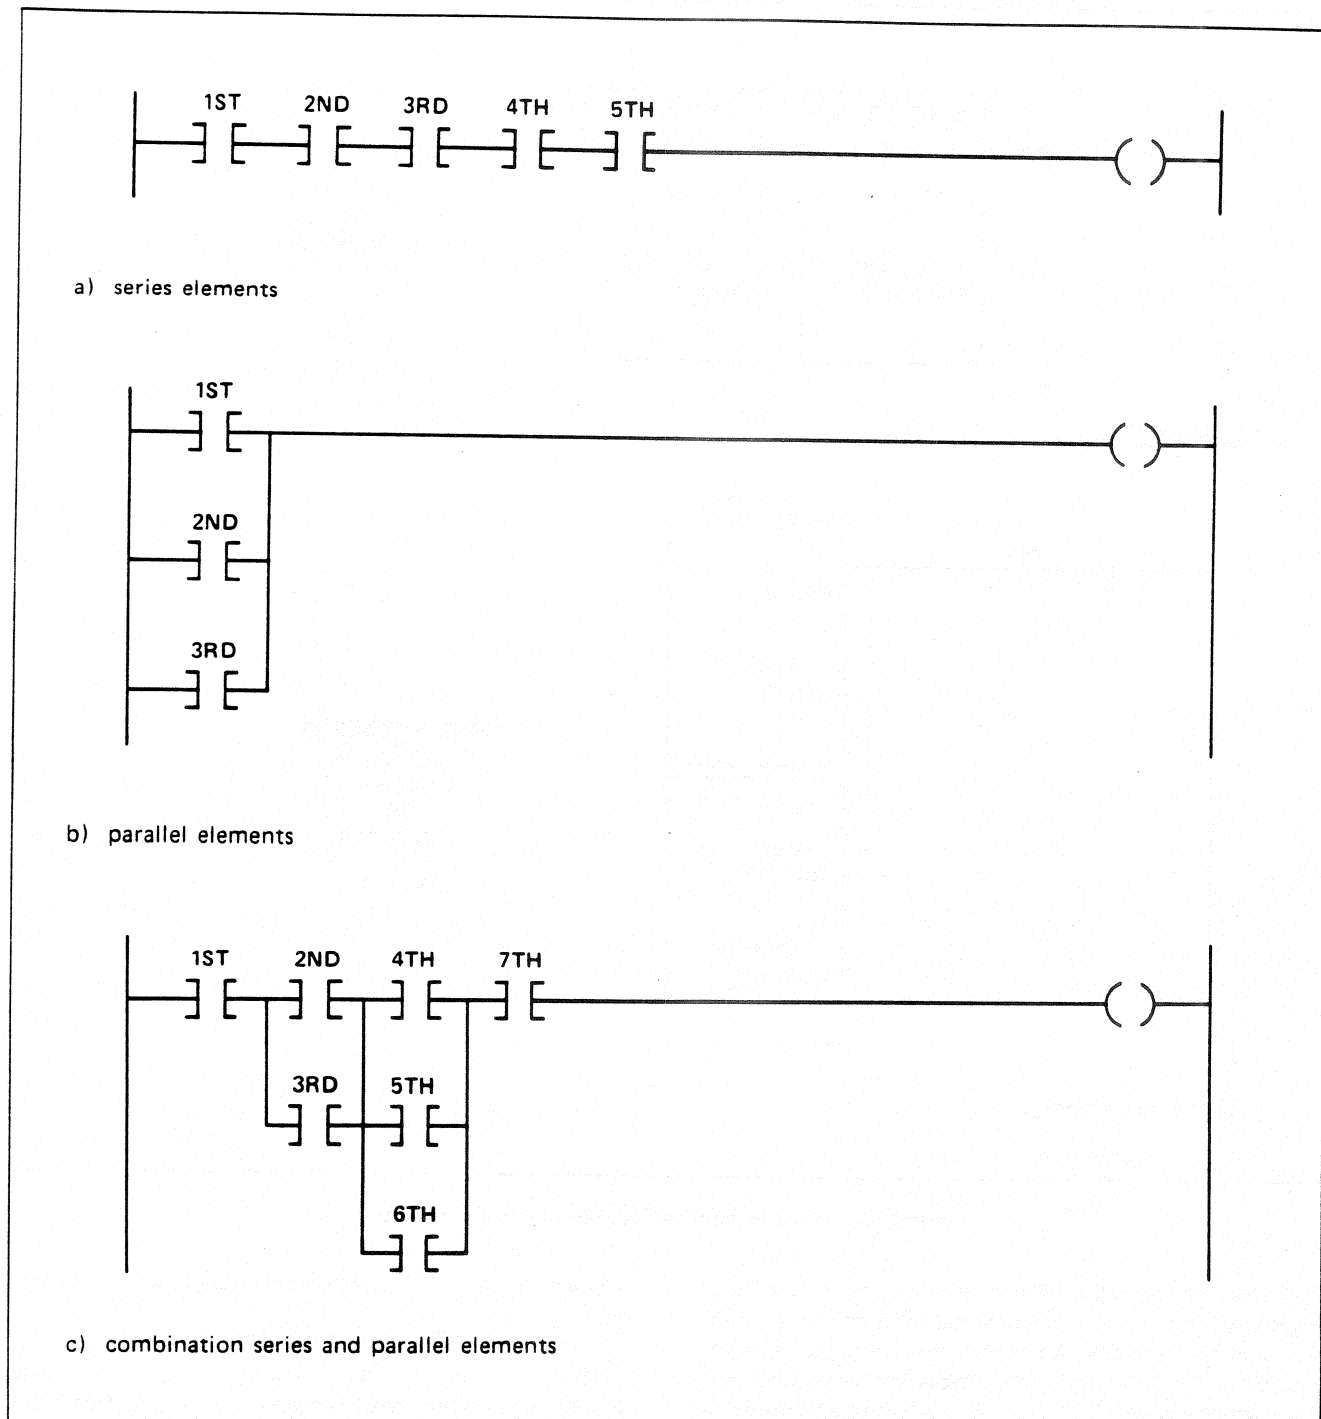

Figure 10-6. Execution Example A
programmable functions are solved or executed before the coil states are updated. The order of contact and programmable function execution illustrated in Figure 10-6 is described in the following 3 points:
1. The contacts shown in each part of Figure 10-6 represent programming elements. These elements can consist of contacts or programmable functions.
2. Contacts or programmable functions are solved from left to right for series elements and from top to bottom for parallel elements. See Figures 10-6(a) and 10-6(b).
3. When series and parallel elements are combined, the order of execution is as shown in Figure 10-6(c).